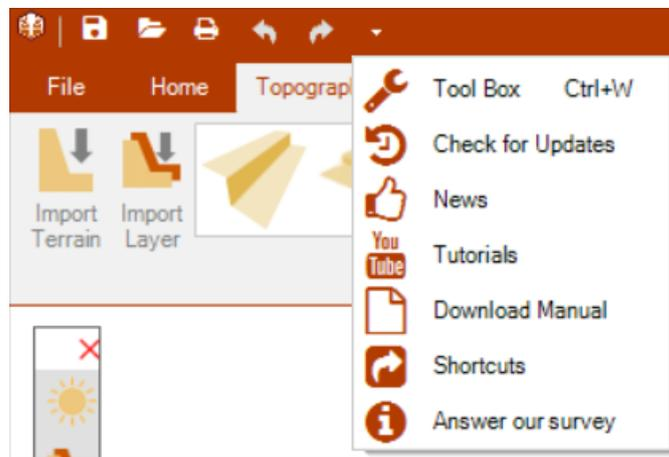

Figure 11 - Options inside of quick access bar.
- **Open toolbox, check for updates and news, tutorials, download the manual and see the list of shortcuts** (Figure 11).